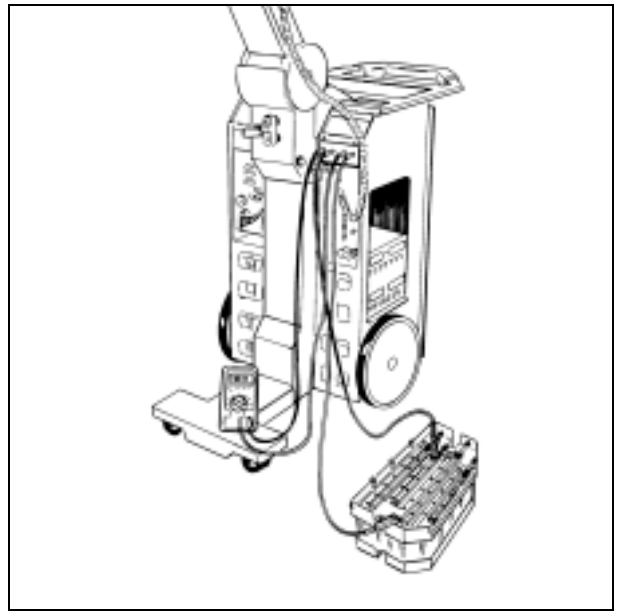

Fig. 4
- Connect the voltmeter to the measurement points parallel to the insulated cables which will be used to discharge the capacitor bank ( $U < 10\text{ V}$ ) (Fig. 4).